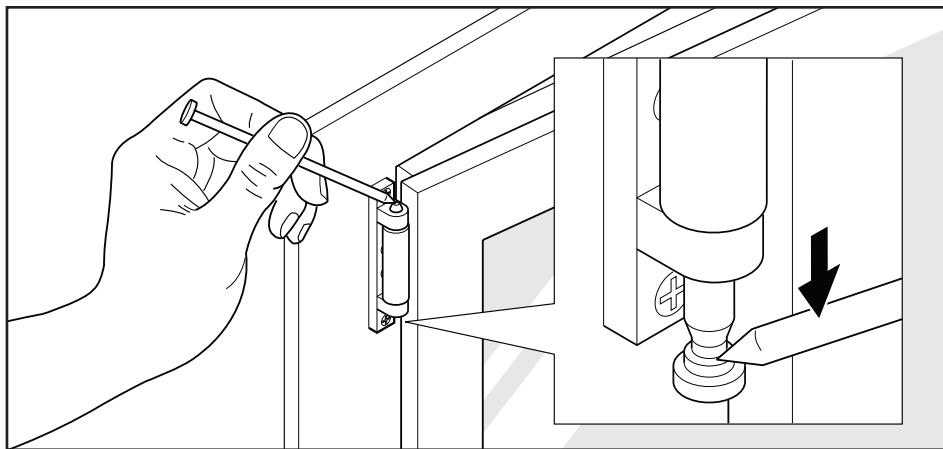

Figure 2-9. How to pull down the hinge pin
- 2.3. One installer supports the weight of the open sash. The other pulls the hinge pin down: use the point of a nail and push down the top of the hinge pin. Then, use the point of the nail and pull the bottom of the pin down until the head of the hinge pin “clicks” into place in the lowest flange of the hinge. Do not continue to pull the hinge pin lower, or it will fall out. See fig. 2-9.